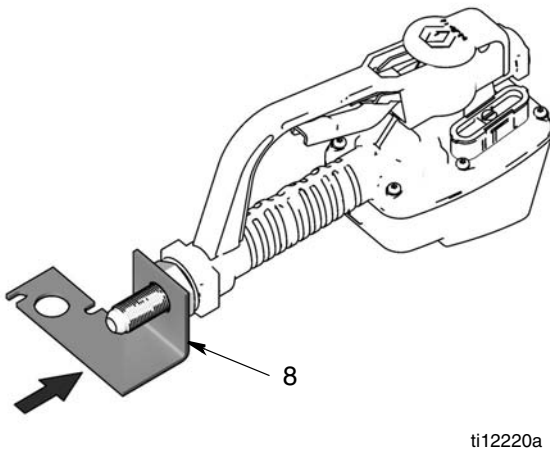

FIG. 7
7. Install bracket (8) over threads of bulk head fitting (3). Refer to FIG. 7 for proper alignment of bracket to meter. Also, following the procedure outlined in steps a - b (below) will help you align the bracket correctly.
- a. Remove meter from vise and place it face down on a padded surface so the bracket is square to the table top as shown in FIG. 7.
- b. Align bracket (8) with meter, making sure the bracket is parallel to the front of the meter and
correctly oriented for installation in the oil bar as shown in FIG. 7.